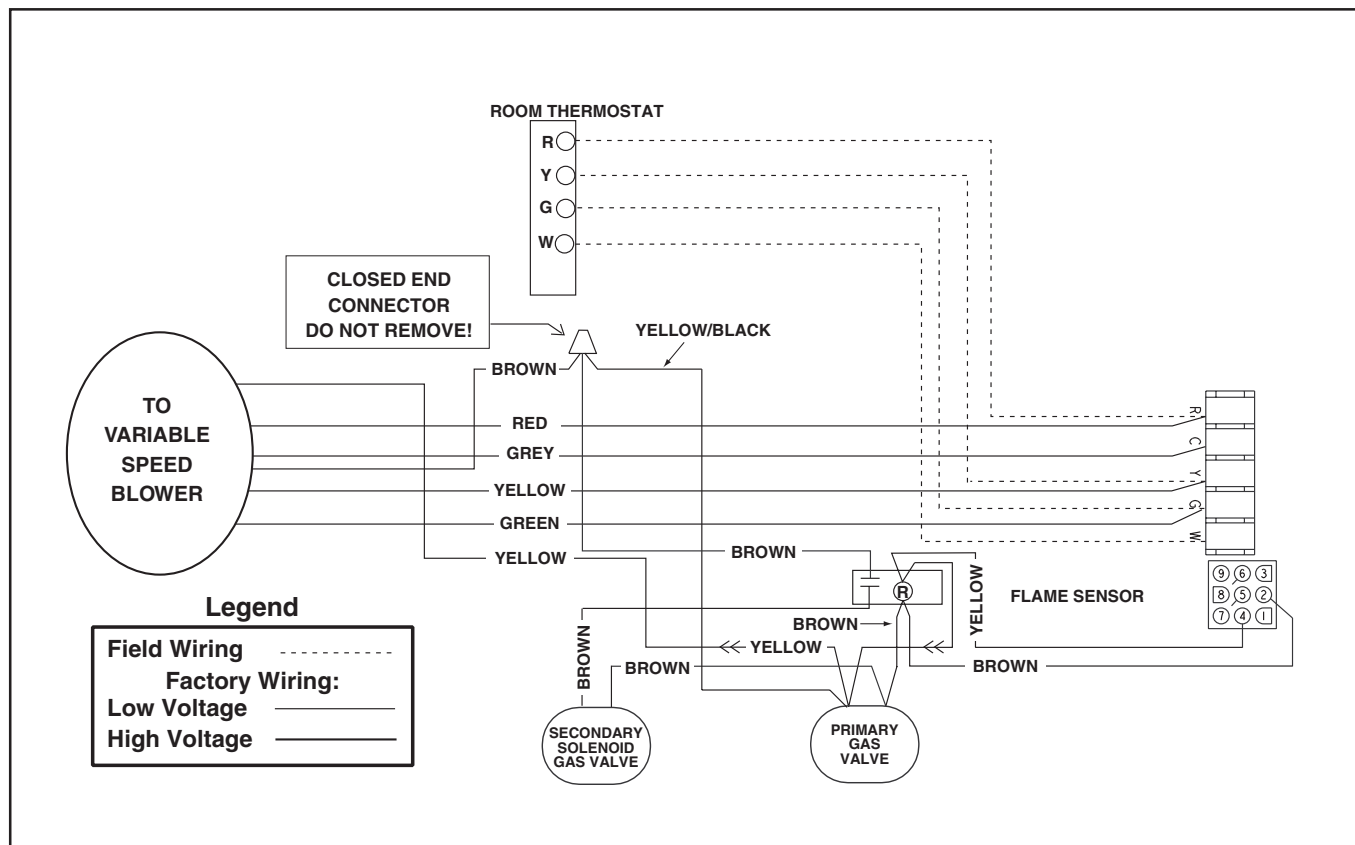

Figure 8b. High Fire Only Configuration
2. *High fire only configuration* – As shipped from the factory, the primary and secondary gas valves are connected in parallel (See **Figure 8b**). This defeats the staging feature and the furnace operates on high fire only. All of the burners will operate on a call for heat and the variable speed blower will operate at a higher speed.